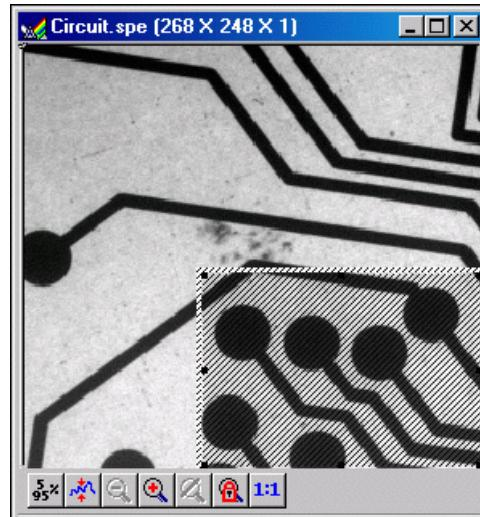

Figure 98. Circuit.spe with Region Selected for Viewing
1. Using the mouse, position the cursor at one corner of the region to be defined, depress the left mouse button, drag the cursor to the diagonally opposite corner, and release the mouse button. Refer to Figure 98.